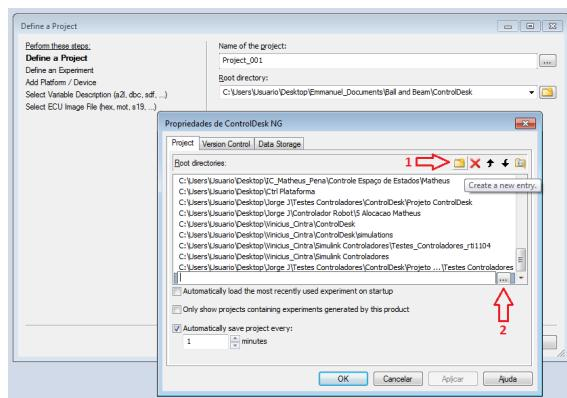

Figure 45: Root directory
3. The root directory must be in your project main folder. Just follow the steps in figure 45.